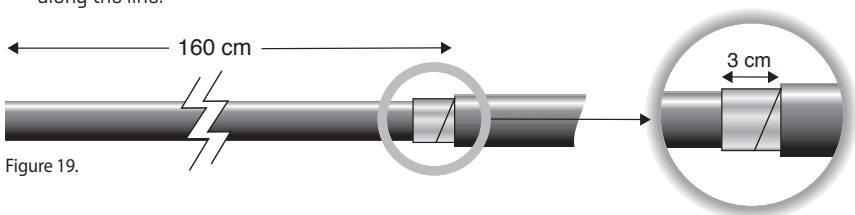

Figure 19.
1. First, remove the black outer sheath for a length of 160 cm by cutting radially round the HVSC Plus cable with a sharp knife. The lengthwise cut is also performed with a knife, but take great care not to score the black insulation under the copper tape as well as the 1st 3 cm of copper tape against the outer sheath. Cut and remove the material lining over the copper tape (Figure 19).
2. With a knife, cut and remove the fabric tape material over the copper tape up to the outer sheath. Measure and mark with a pen the outer copper screen tape at 3 cm along from the end of the outer sheath (Figure 19). With a knife or scissors, carefully cut and remove the copper tape, again without damaging the black insulation below. If using a knife, carefully score the tape without cutting through it and use this score line to tear the tape along the line.